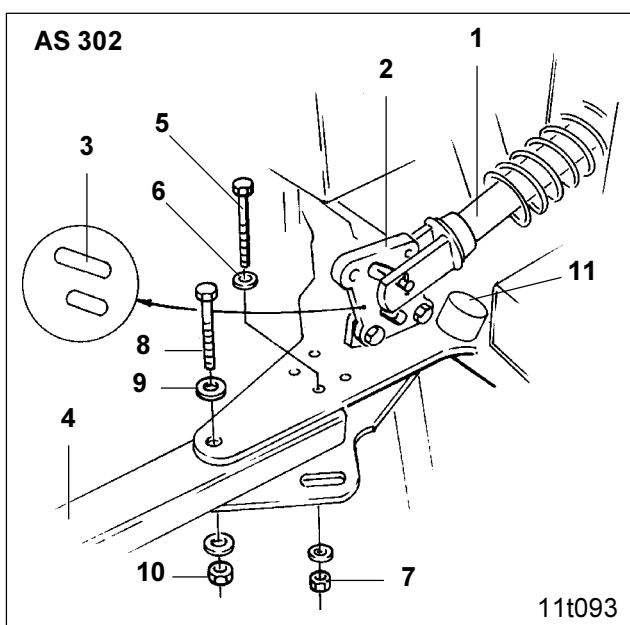
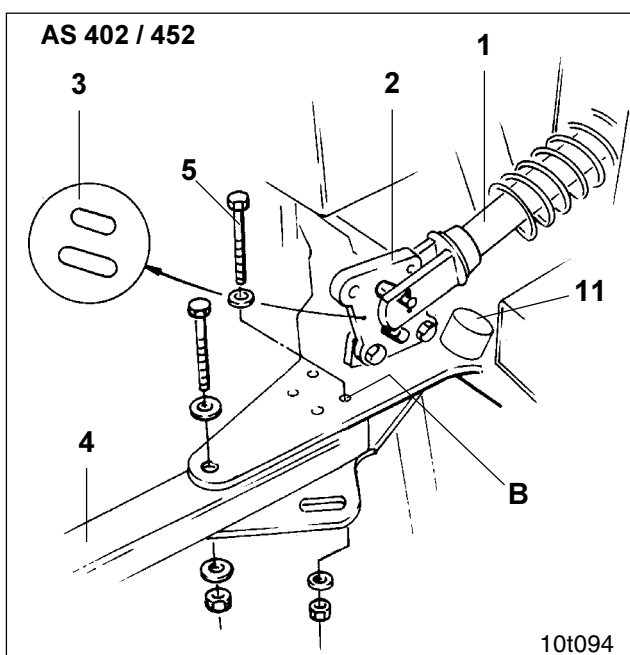
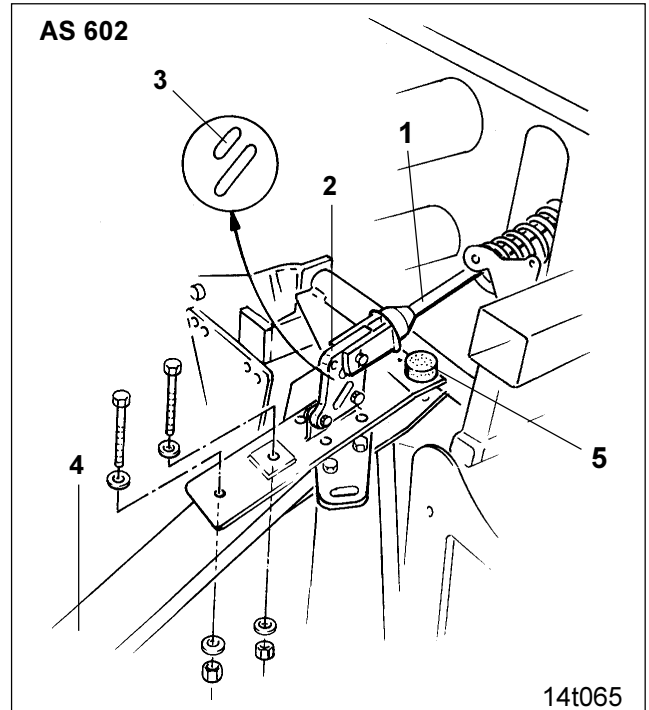

Fig. 24.5
Fig. 24.6
Fig. 24.7
The hydraulic ram (Fig. 24.5/1) has to be fitted to the bracket (Fig. 24.5/2) in the longer slotted hole (Fig. 24.5/3). If necessary bolt the link (Fig. 24.5/2) into another hole.
Bolt marker arms (Fig. 24.5/4) to it by:
- one hex. bolt M6 x 90, 8.8 DIN 931 (Fig. 24.5/5),
- two washers 6,4 x 18 x 1,6 DIN 9021 (Fig. 24.5/6) and
- one lock nut M6, 8 DIN 980V (Fig. 24.5/7).
- one hex bolt M14 x 100, 8.8 DIN 931 (Fig. 24.5/8),
- two tensioning washers 14 DIN 6796 (Fig. 24.5/9) and
- one lock nut M14, 8 DIN 980V (Fig. 24.5/10).
The hydraulic ram (Fig. 24.6/1) has to be fitted to the link (Fig. 24.6/2) in to the short slotted hole (Fig. 24.6/3). If necessary bolt link (Fig. 24.6/2) into another hole.
Bolt on track marker arm (Fig. 24.6/4) (for fixing material please refer to 3 m working width).
Bolt track marker arm (Fig. 24.6/4) by using a hex. bolt M6 x 90, 8.8 DIN 931 (Fig. 24.6/5) in hole "B" (Fig. 24.6).
The hydraulic ram (Fig. 24.7/1) has to be fitted to the link (Fig. 24.7/2) into the short slotted hole (Fig. 24.7/3). If necessary bolt link (Fig. 24.7/2) into another hole.
Bolt on track marker arm (Fig. 24.7/4) (for fixing material, please refer to 3 m working width).
The buffer blocks (Fig. 24.5/11, Fig. 24.6/11 or Fig. 24.7/5) must never be removed and in case of wear must be replaced.
Affix the track marker arm as shown in figures (Fig. 24.5 and Fig. 24.6).